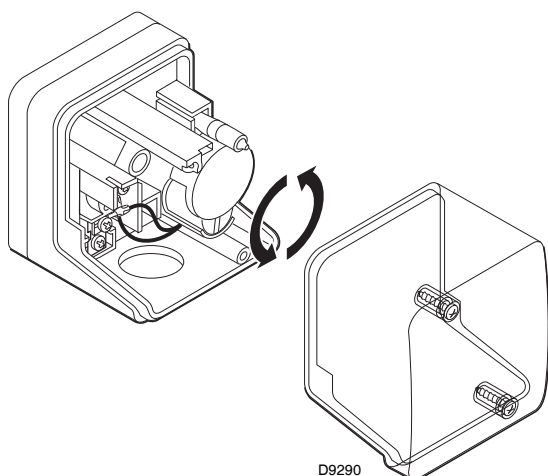

Fig. 28
- Adjust the minimum gas pressure (Fig. 28) switch to the start of the scale.